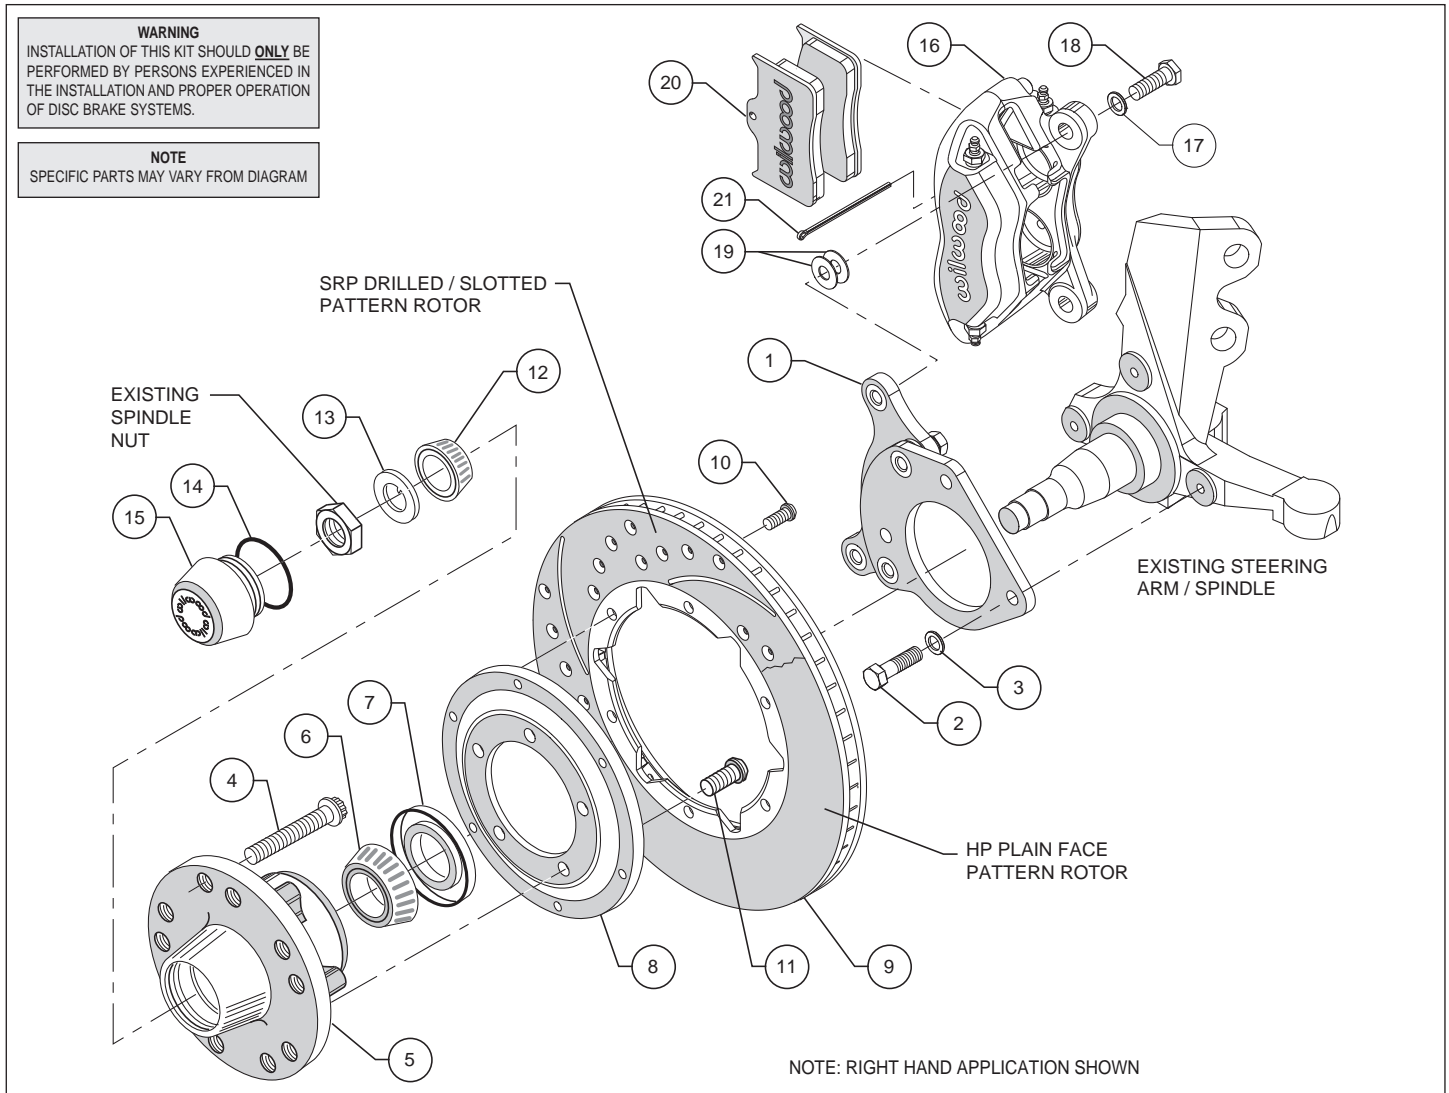
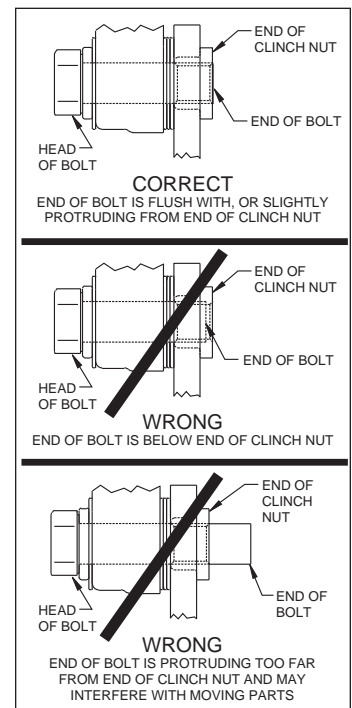

Figure 1. Typical Installation Configuration
Figure 3. Clinch Nut Engagement Diagram
Assembly Instructions (numbers in parenthesis refer to the parts list and Figure 1 on the preceding pages): **CAUTION:** All mounting bolts must fully engage clinch nuts. Be sure to check that all bolts are either flush or protruding through flanged side of clinch nut after shimming, Figure 3.
•Align caliper mounting bracket (1) with the corresponding holes, to the face of the spindle and attach using bolts (2) and washers (3), as shown in Figure 1 and Photo 2. Temporarily tighten the mounting bolts. Ensure that the flanged heads of the clinch nuts in the bracket are facing outboard, Photo 2. **NOTE:** The bracket must fit squarely against the mounting points on the spindle. Inspect for interference from casting irregularities, machining ridges, burrs, etc. Remove bolts one at a time, apply red Loctite® 271 to the threads, and torque to 40 ft-lb.
- Orient the rotor (9) and the rotor adapter (8) as shown in Figure 1 and Photo 5. Attach the rotor to the adapter using bolts (10). Using an alternating sequence, apply red *Loctite*® 271 to the threads, and torque to 25 ft-lb.
- Mount the adapter/rotor assembly (8/9) to the hub (5) using bolts (11), as shown in Figure 1 and Photo 6. Using an alternating sequence, apply red *Loctite*® 271 to the threads, and torque to 55 ft-lb.
- NOTE:** Please reference the caution statement at the beginning of the assembly instructions. Mount the caliper (16) onto the caliper mounting bracket (1) using bolts (18) and washers (17), as shown in Figure 1. Initially place two .035" thick shims (19) on each bolt between the caliper and the bracket, Photo 9. Temporarily tighten the mounting bolts and view the rotor (9) through the top opening of the caliper. The rotor should be centered in the caliper, Photo 10. If not, adjust by adding or subtracting shims between the bracket and the caliper. Always use the same amount of shims on each of the two mounting bolts. **NOTE:** The end of each bolt must be flush with or slightly protruding from the head of the clinch nut, as shown in Figure 3. If necessary place spare shims between washer (17) and caliper mounting ear to achieve the proper clinch nut engagement. Once the caliper alignment and clinch nut engagement are correct, remove the bolts one at a time, apply red *Loctite*® 271 to bolt threads, and torque to 40 ft-lb.